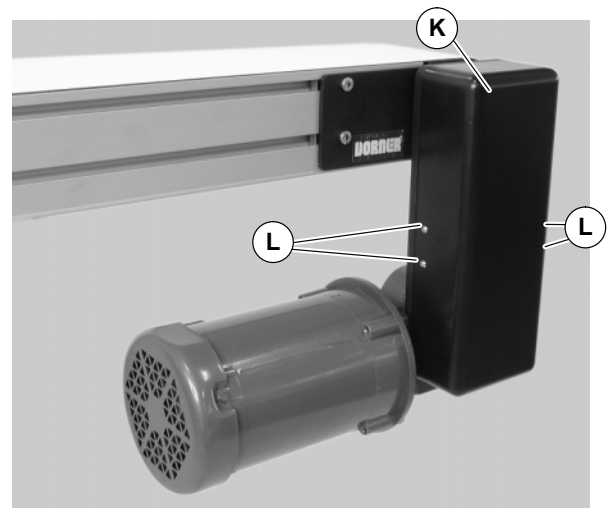

Figure 12
9. Install cover (K of Figure 12) with four (4) screws (L). Tighten screws to 35 in-lb (4 Nm).
1. Remove four (4) screws (L of Figure 12) and remove cover (K).
4. Install cover (K of Figure 12) with four (4) screws (L). Tighten screws to 35 in-lb (4 Nm).
6. Install cover (K of Figure 12) with four (4) screws (L). Tighten screws to 35 in-lb (4 Nm).